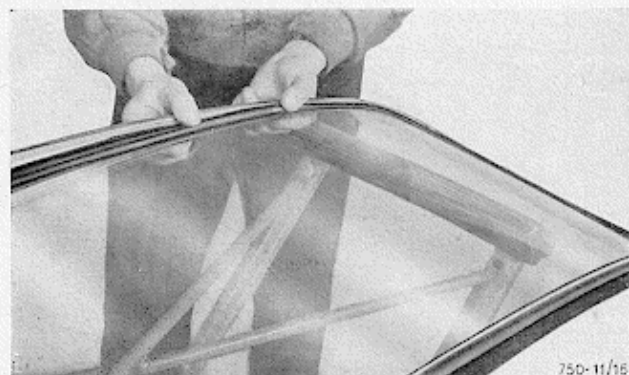

Fig. 14 Fitting the aluminium frame to the windshield rubber moulding
- fit the aluminium frame after having expanded its housing in the rubber moulding by means of a suitable tool (Fig. 14);